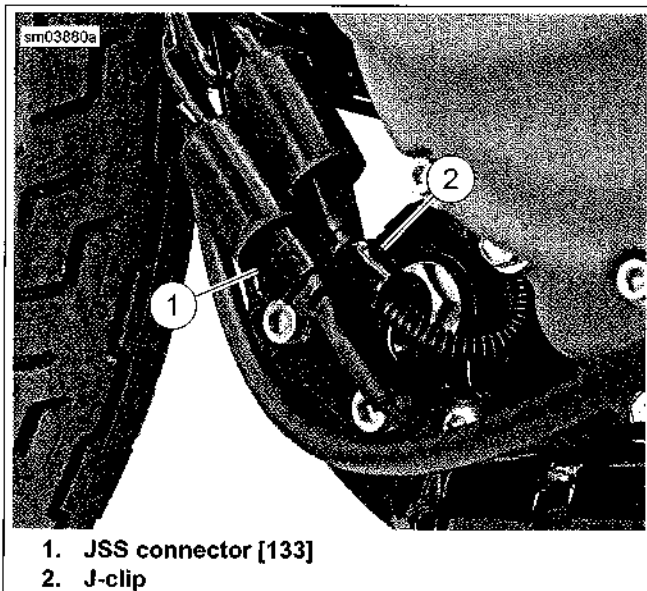

Figure 6-103. JSS Connector
2. See Figure 6-103. Unplug JSS harness connector [133] (1).